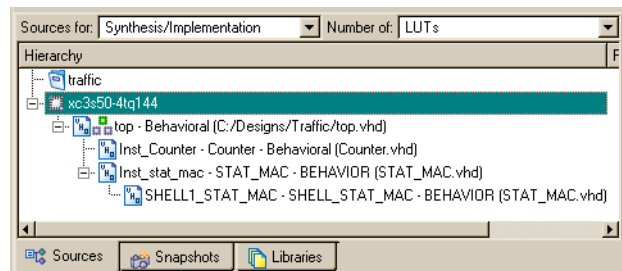

Figure 6-1: Sources in Project Window
- To modify your existing CoolRunner-II project to use Spartan-3E devices, double-click on "xc2c256-7tq144 – XST VHDL" in the **Sources** window, shown in Figure 6-1.